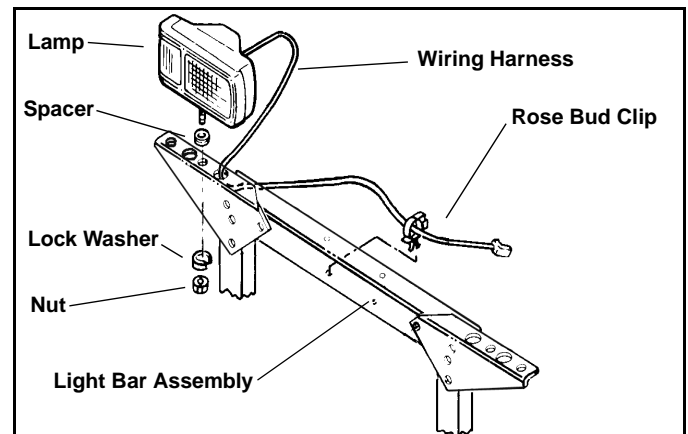

Figure 6
2. Mount Lamps on Upper Channel Assembly. (See Figure 6)
3. Pass Wire Harness attached to Lamps through holes in Upper Channel Assembly. (See Figure 6)
5. Attach Plow section of Wire Harness to Upper Channel Assembly with Rosebud Clips provided. (See Figure 6)